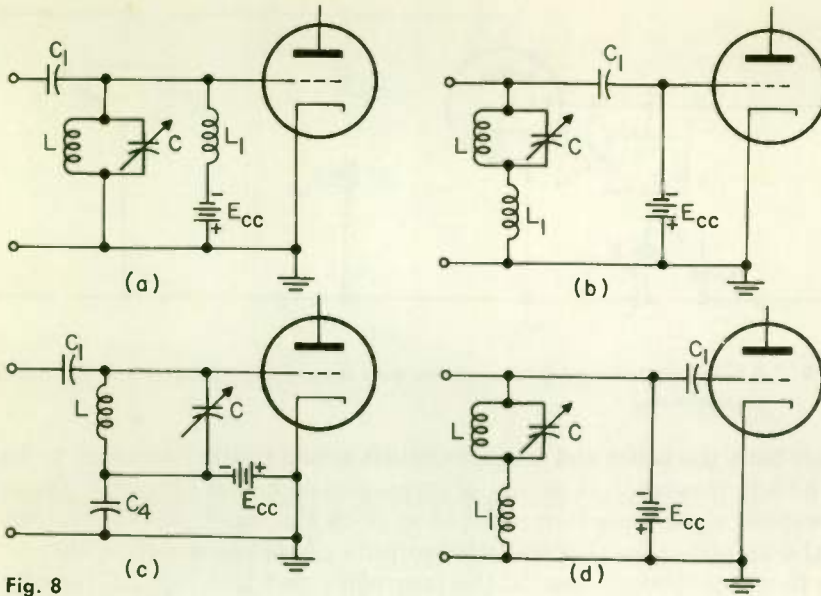

Fig. 8
1. Find the mistakes in the circuits of Fig. 8 and describe how these mistakes can be corrected. HINT: Check the following points. (1) Does